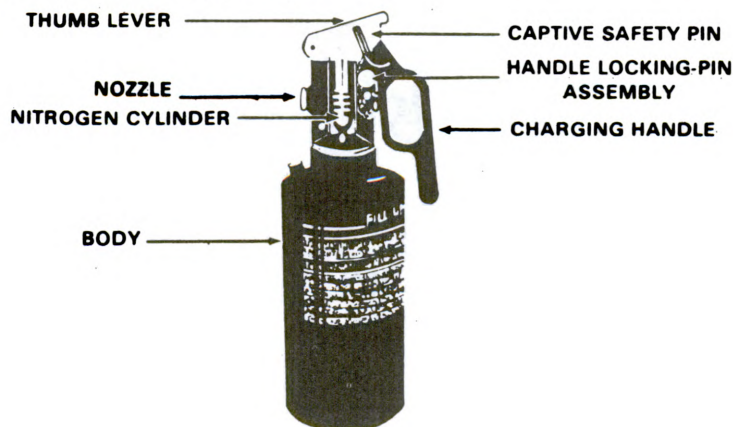

Figure 1
1. The M11 decontamination apparatus (fig. 1) has a 1 1/2-quart capacity and normally holds 1 1/3 quarts of DS2 decontamination solution. It is normally mounted in wheeled and tracked vehicles, to be used to decontaminate surfaces which must be handled to operate the vehicle or allow it to perform its mission (e.g., laterals, steering wheel, driver's seat, and combat door, hatches, etc.).